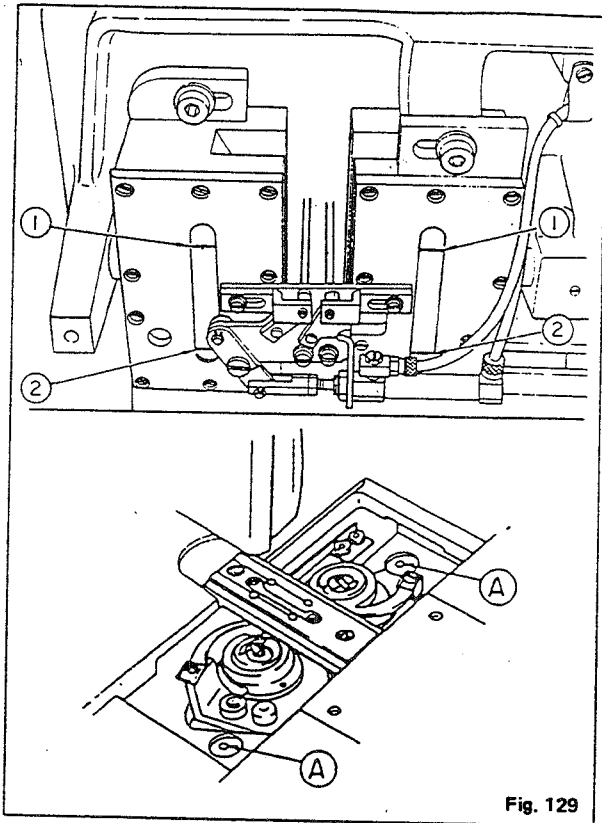

Fig. 129
Supply the lubricating oil through lubrication holes (A) with the oil feeder as shown in Fig. 129.